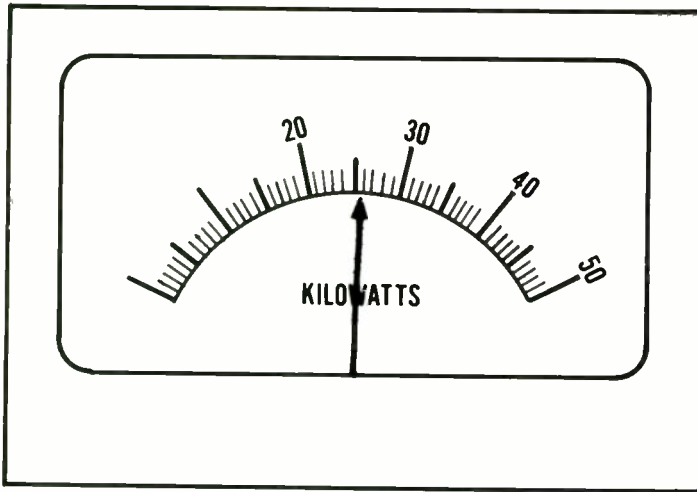

Fig. 7-1. High-voltage meter.
74. What is the meter reading shown in Fig. 7-1?